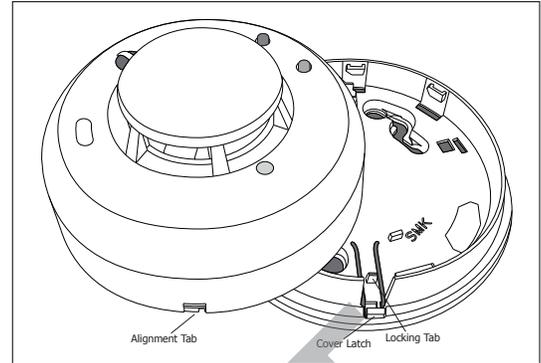

Figure 3: Smoke Detector-to-Base Alignment
6. To mount the detector to the base, line up the raised tab on the lip of the detector with the slot on the lip of the mounting base and rotate until it clicks into place. See Figure 3.